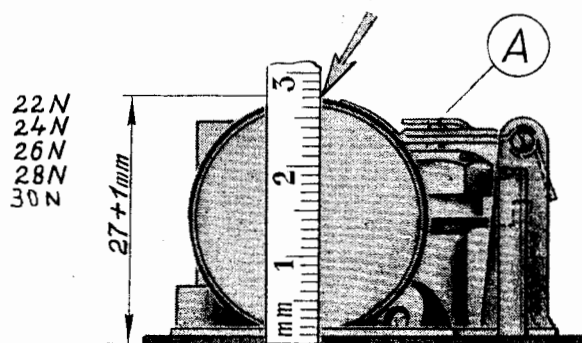

Fig. 173. Float valve closed
- Restore central float to proper condition according to the information given in Figs. 173 and 174.
- Restore central float to proper condition in accordance with the dimensions given in Figs. 173 and 174.